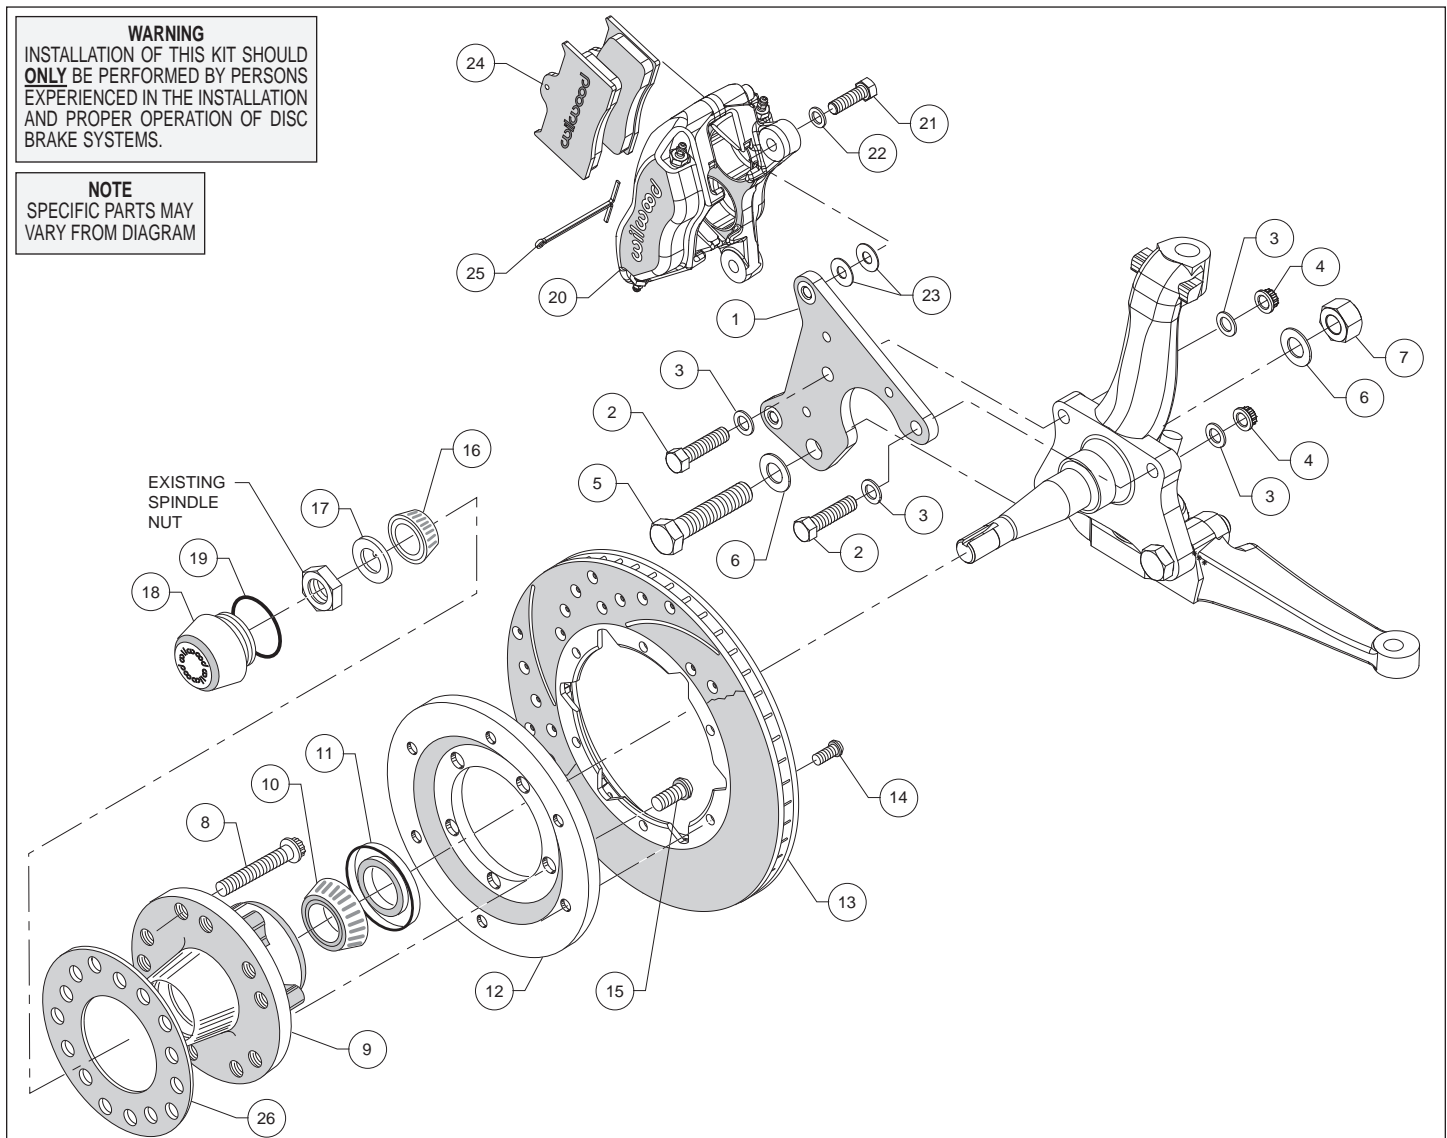
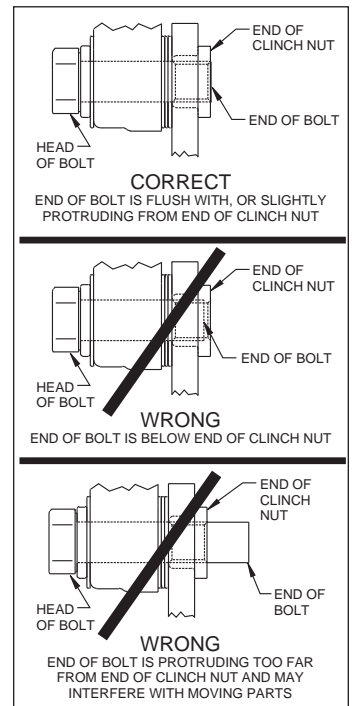

Figure 1. Typical Installation Configuration
Figure 3. Clinch Nut Engagement Diagram
**Assembly Instructions** (numbers in parenthesis refer to the parts list, on the preceding page and Figure 1): **CAUTION:** All mounting bolts must fully engage clinch nuts. Be sure to check that all bolts are either flush or protruding through flanged side of clinch nut after shimming, Figure 3.
- Orient the caliper mount bracket (1) as shown in Figure 1 and Photo 1, and install using bolts (2), washers (3), and nuts (4) on the top holes and bolt (5), washers (6), and nut (7) on the bottom hole, Figure 1 and Photo 1. Temporarily tighten the mounting bolts. Ensure that the flanged heads of the clinch nuts in the bracket are facing outboard, Photo 1. **NOTE:** The bracket must fit squarely against the mounting points on the spindle. Inspect for interference from casting irregularities, machining ridges, burrs, etc. Remove nuts one at a time, apply red *Loctite*® 271 to bolt threads and torque nuts (4) to 47 ft-lbs. and nut (7) to 140 ft-lbs.
- Pack the large inner bearing cone (10) with high temperature disc brake bearing grease (available from your local auto parts store) and install into the backside of the hub (9), Photo 3.
- Install the grease seal (11) by pressing into the backside of the hub (9), flush with the end of the hub, Photo 3.
- Orient the rotor (13) and the rotor adapter (12) as shown in Figure 1 and Photo 4. Attach the rotor to the adapter using bolts (14). Using an alternating sequence, apply red *Loctite*® 271 to the threads, and torque to 25 ft-lb.
- Mount the adapter/rotor assembly (12/13) to the hub (9) using bolts (15), as shown in Figure 1 and Photo 5. Using an alternating sequence, apply red *Loctite*® 271 to the threads, and torque to 55 ft-lb.
- NOTE:** Please reference the caution statement at the beginning of the assembly instructions. Mount the caliper (20) onto the caliper mounting bracket (1) using bolts (21) and washers (22), as shown in Figure 1. Initially place two .035" thick shims (23) on each bolt between the caliper and the bracket, Photo 8. Temporarily tighten the mounting bolts and view the rotor (13) through the top opening of the caliper. The rotor should be centered in the caliper, Photo 9. If not, adjust by adding or subtracting shims between the bracket and the caliper. Always use the same amount of shims on each of the two mounting bolts. **NOTE:** The end of each bolt must be flush with or slightly protruding from the head of the clinch nut, as shown in Figure 3. If necessary place spare shims between washer (22) and caliper mounting ear to achieve the proper clinch nut engagement. Once the caliper alignment and clinch nut engagement are correct, remove the bolts one at a time, apply red *Loctite*® 271 to bolt threads, and torque to 40 ft-lb.